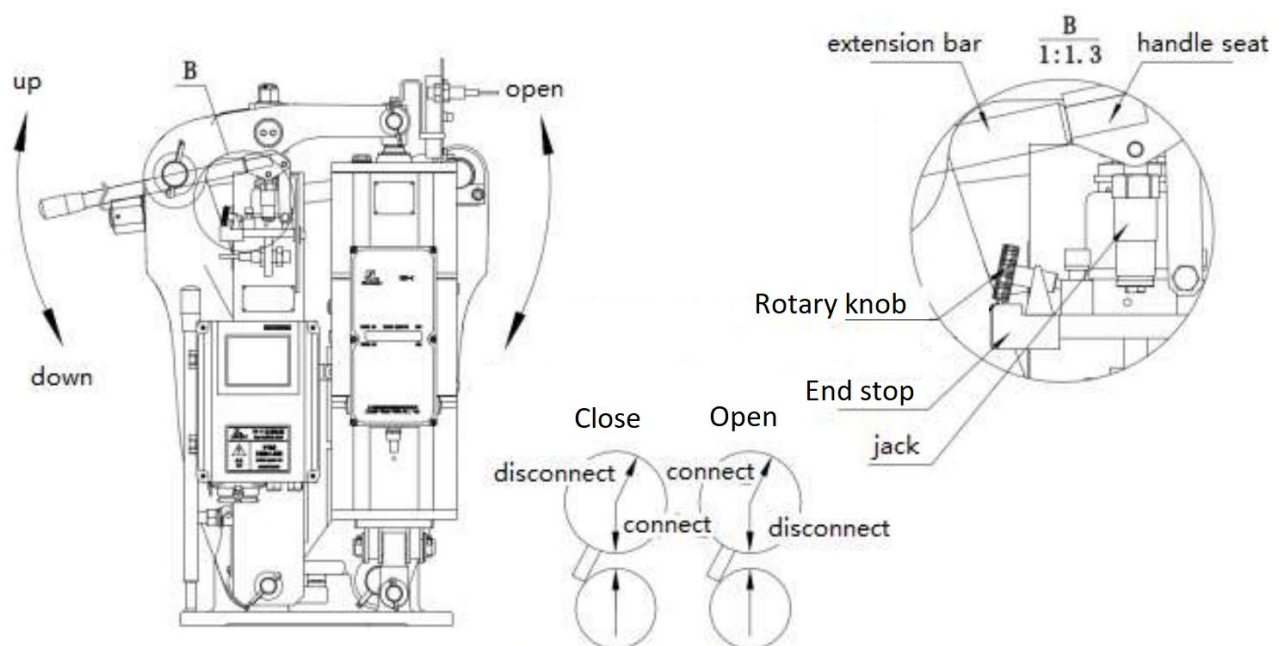

Fig. 12: Hand pump operation
Refer to fig. 12. If the brake shall be opened by manual release lever, turn the lowering valve clockwise (CW) to the “Open” position. Start pumping to open the brake.